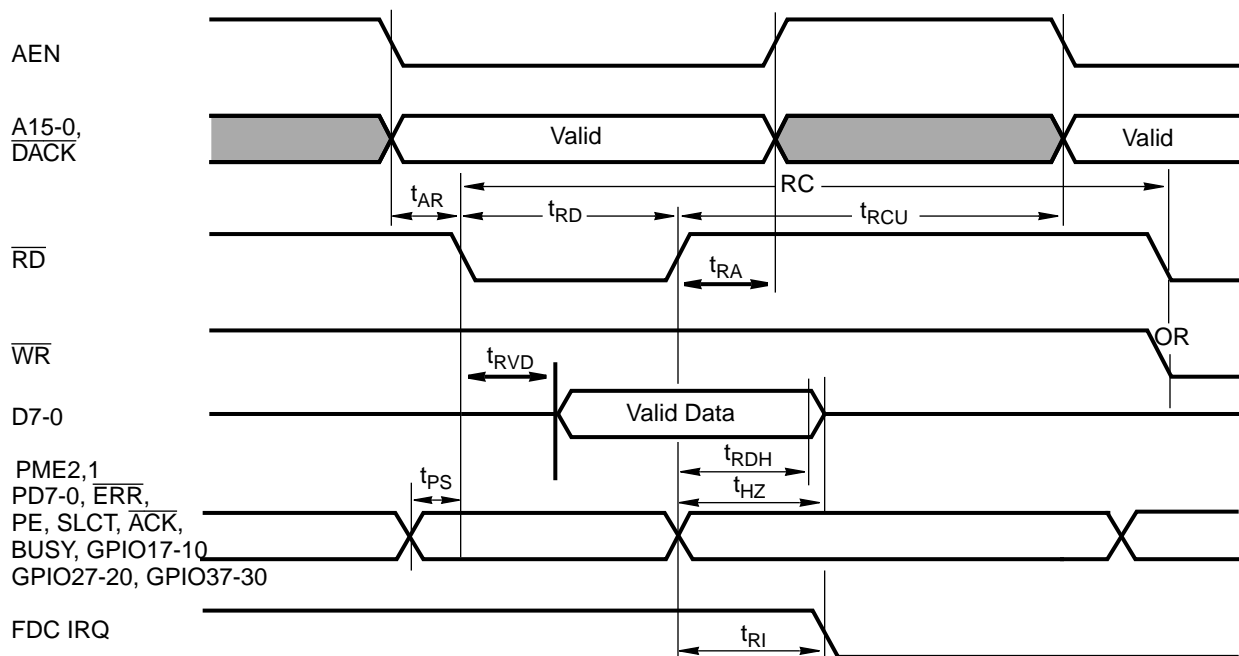

FIGURE 14-3. Microprocessor Read Timing
2. See read cycle timing in FIGURE 14-3 "Microprocessor Read Timing" on page 246.
2. See read cycle timing, FIGURE 14-3 "Microprocessor Read Timing" on page 246.